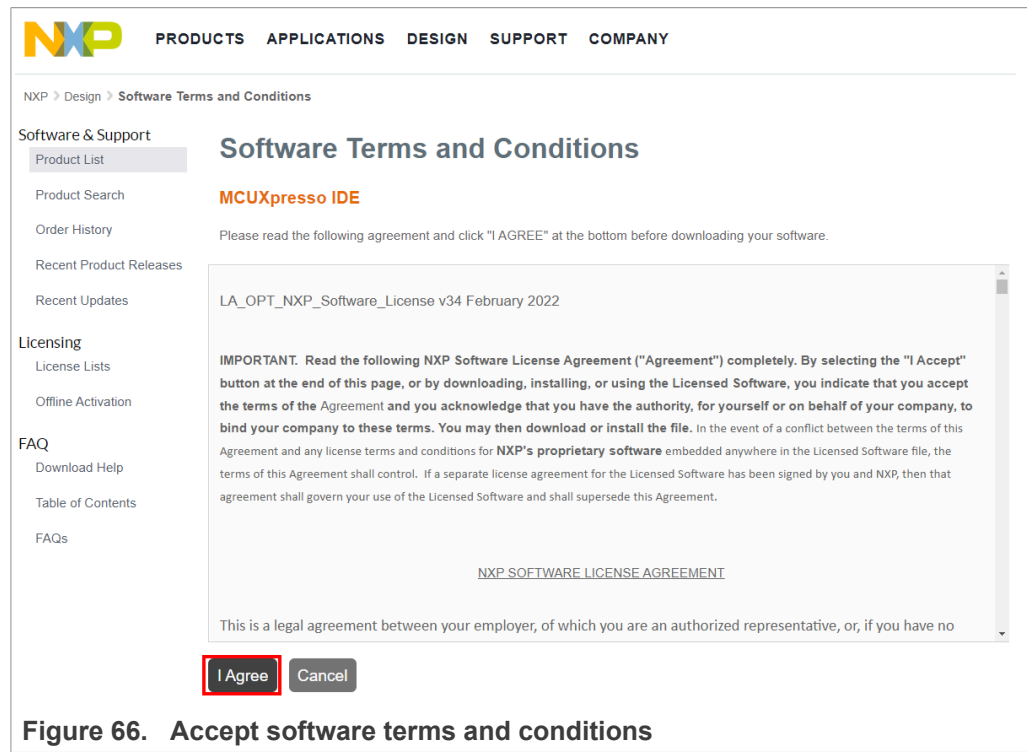

Figure 66. Accept software terms and conditions
5. Accept software terms and conditions as shown in Figure 66: